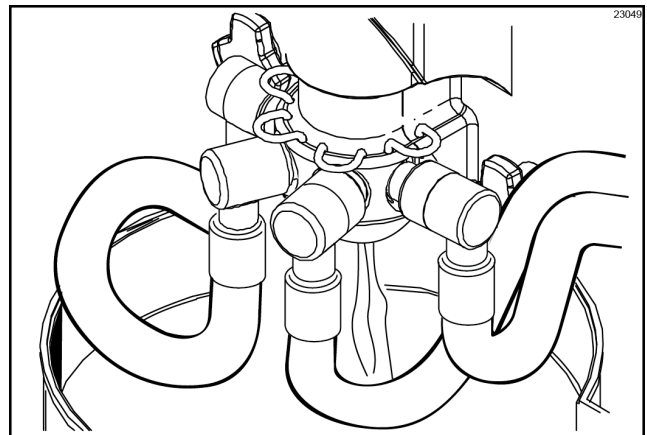

Figure-98
6. Drain the product from the freezing cylinder and the mix hopper. (See Figure-98)